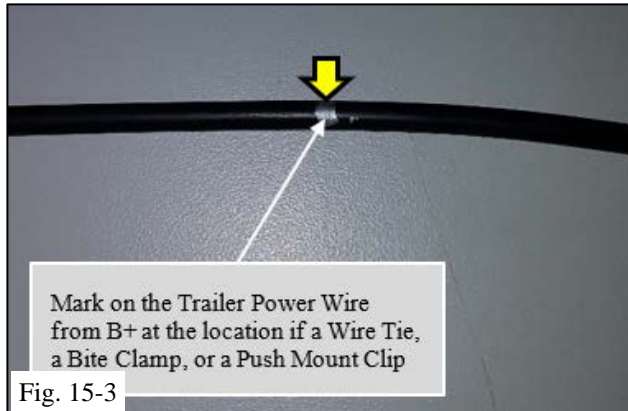

Fig. 15-3
(1) Laying the trailer power wire from B+ along the considered routing, mark the position where the trailer power wire from B+ will be attached to the vehicle wire harness with the wire ties (Fig. 15-3). Shown with silver for contrast purposes.